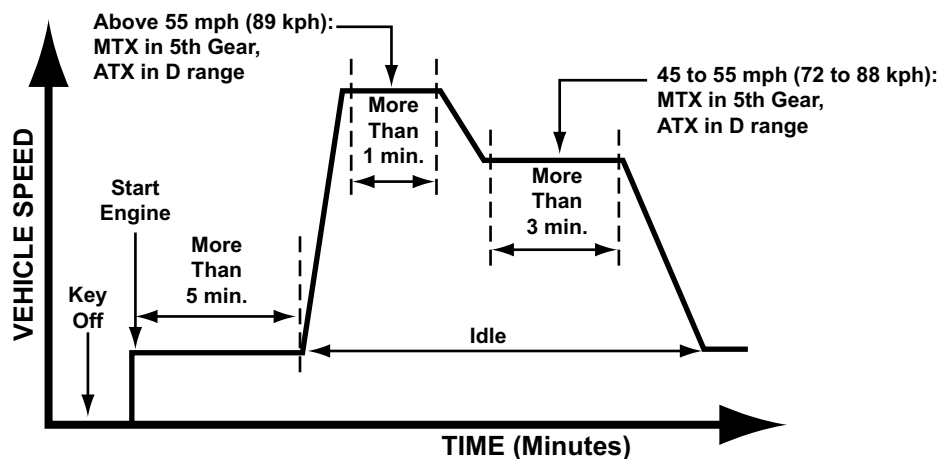

Figure MA000-42
3. Drive vehicle as shown in Figure MA000-42. Driving condition before driving at constant speed is not specified.